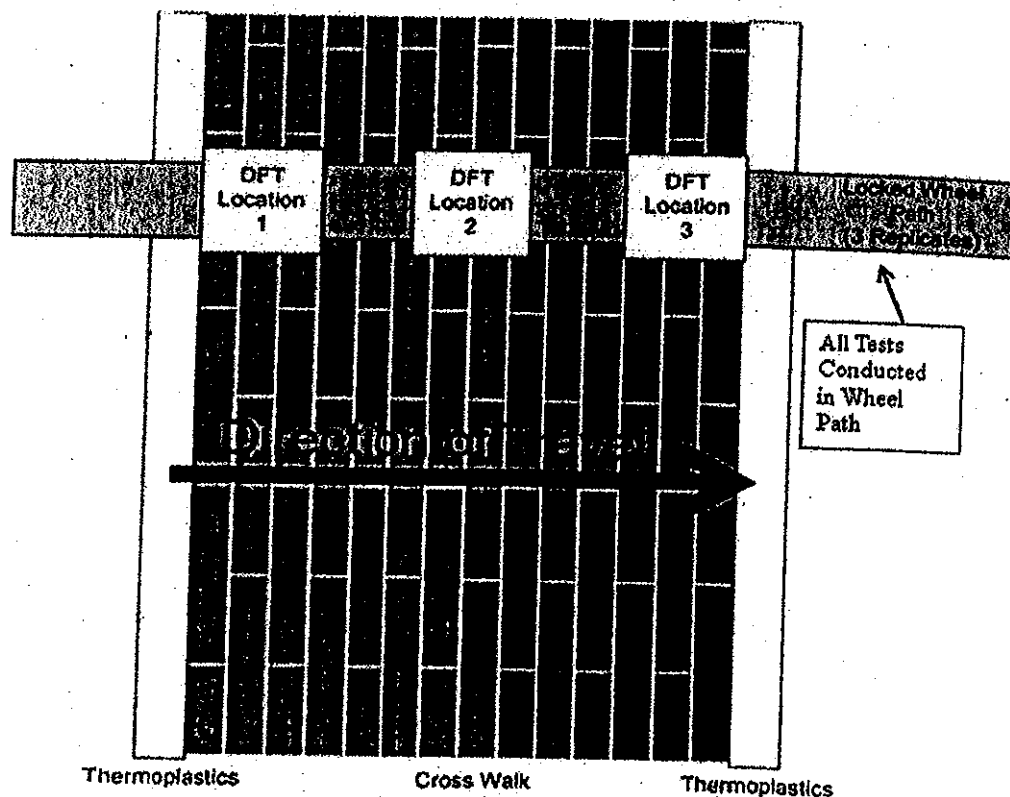

FIGURE 1 Testing protocol for patterned pavement.
and compared. The test layout is shown in Figure 1.
- A) **New Construction** – The DFT test shall be conducted on all crosswalks within 60 days of the new surface completion date. DFT tests shall be conducted at three (3) discrete locations in each lane; the results shall be averaged and reported for each lane tested. All lanes shall be evaluated and compared. The test layout is shown in Figure 1.
- B) **Inventory** – For in-service QPL test sections, the DFT test is conducted at 6 month intervals up to 3 years. Maintenance surveys are conducted on a yearly basis. Test site shall be confined to a single outside traffic lane (single direction) for each crosswalk location. DFT tests will be conducted at three (3) discrete locations (Figure 1) in each lane; the results shall be averaged and reported for each lane tested. The lane in which the friction tests were conducted should be identified in the report with the test results.